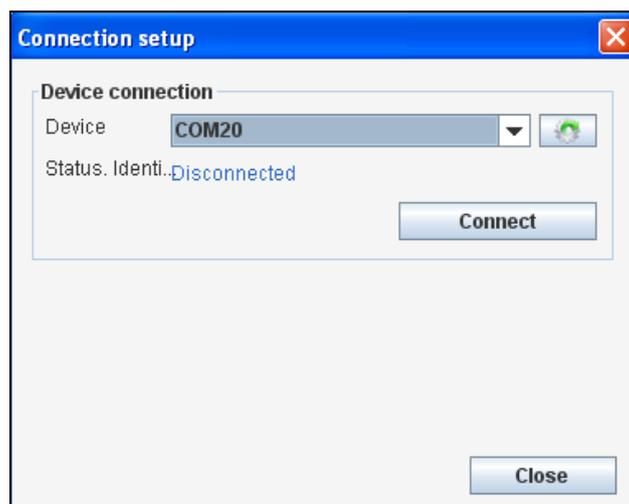

Fig. 4. RVLM – Connection to communication port
- Click on “Connect” USB. The configuration box will appear; from the wipe menu select the communication port that controls the RVLM (fig.4). Choose from the list of available COM and click “Connect”.